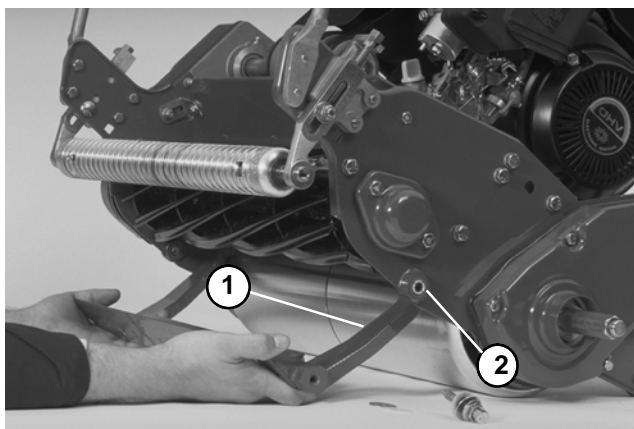

Figure 26
5. Remove bedbar from the mower. Keep metal washers and discard nylon washers. Remove and discard both nylon bushings (Fig. 26).